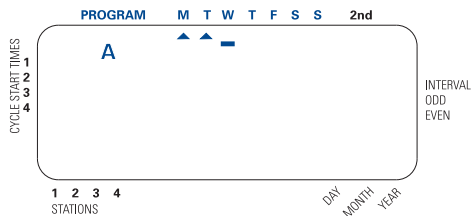

Figure 5: LCD Display with Watering Days
display will show an “A” and the cursor will blink under the days of week M, T, W, T, F, S, S Monday, Tuesday, etc. [See Figure 5]
- Press **ENTER** to activate watering on Monday. An arrow appears under “M” and the cursor will advance to Tuesday (“T”), press **ENTER** to activate watering on Tuesday or **NEXT** to skip to the next day. [See Figure 5] Repeat these steps for all days of the week.